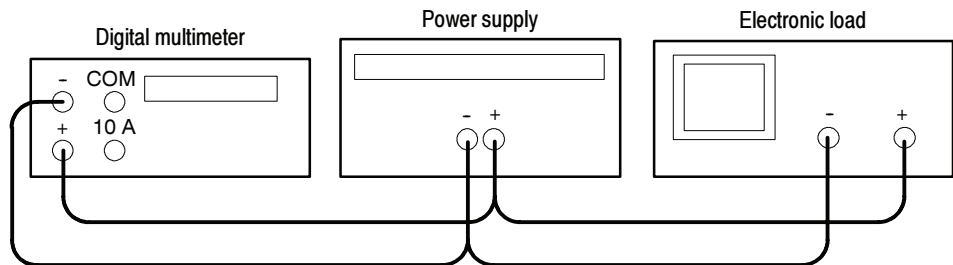

Figure 7: Constant voltage load test setup
2. Ensure that the power supply output is disabled. Connect the Current Meter and electronic load to the front panel OUTPUT 1 terminals. See Figure 7 for details.
6. Enable the electronic load. Adjust the load until the power supply CURRENT (A) readout indicates 2.500 A.
11. Ensure that the power supply output is disabled. Remove the leads from the front panel OUTPUT 1 terminals and connect them to the OUTPUT 1 terminals on the rear of the instrument. Maintain the equipment configuration and polarities shown in Figure 7.
15. Ensure that the power supply output is disabled. Connect the DVM and electronic load to the front panel OUTPUT 2 terminals. Maintain the equipment configuration and polarities shown in Figure 7.
17. Ensure that the power supply output is disabled. Remove the leads from the front panel OUTPUT 2 terminals and connect them to the rear panel OUTPUT 2 terminals. Maintain the equipment configuration and polarities shown in Figure 7.
2. Ensure that the power supply output is disabled. Connect the DVM and electronic load to the front panel OUTPUT 2 (+) and OUTPUT 1 (-) terminals. Maintain the equipment configuration and polarities shown in Figure 7.
6. Ensure that the power supply output is disabled. Remove the leads from the front panel OUTPUT 2 and OUTPUT 1 terminals and connect them to the rear panel OUTPUT 2 (+) and OUTPUT 1 (-) terminals. Maintain the equipment configuration and polarities shown in Figure 7.
2. Ensure that the power supply output is disabled. Connect the DVM and electronic load to the front panel OUTPUT 2 terminals. Maintain the equipment configuration and polarities shown in Figure 7.
6. Enable the electronic load. Adjust the load until the power supply CURRENT (A) readout indicates 5.000 A.
11. Ensure that the power supply output is disabled. Remove the leads from the front panel OUTPUT 2 terminals and connect them to the OUTPUT 2 terminals on the rear of the instrument. Maintain the equipment configuration and polarities shown in Figure 7.
2. Ensure that the power supply output is disabled. Connect the DVM and electronic load to the front panel OUTPUT 3 terminals. Maintain the equipment configuration and polarities shown in Figure 7.
11. Ensure that the power supply output is disabled. Remove the leads from the front panel OUTPUT 3 terminals and connect them to rear panel OUTPUT 3 terminals. Maintain the equipment configuration and polarities shown in Figure 7.